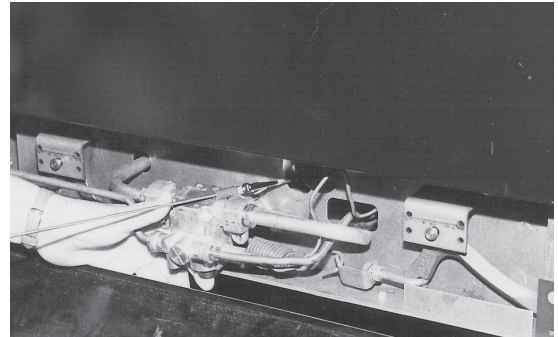

Fig. 12
2. Light pilot by depressing the reset button located behind the kick panel (Fig. 12). Light pilot and continue to hold reset button in for 1 minute. If pilot fails to light, turn main gas supply "OFF" and wait 5 minutes before repeating Step 2.